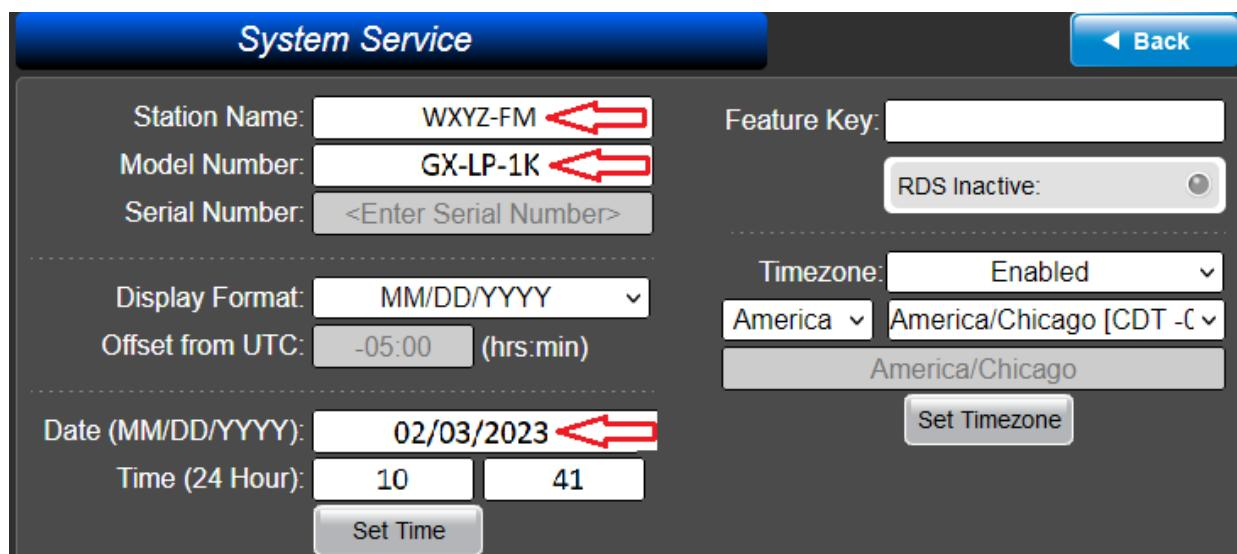

Figure 4-32 System Service Setup Page
- Select Menu > Setup > Service, clicking on Service to open the **System Service Window**, Figure 4-32.
The items circled in the figure above, correspond to the fields as arrowed in Figure 4-32 below. The Top Banner updates to what is entered in first two fields after exiting the System Service screen.